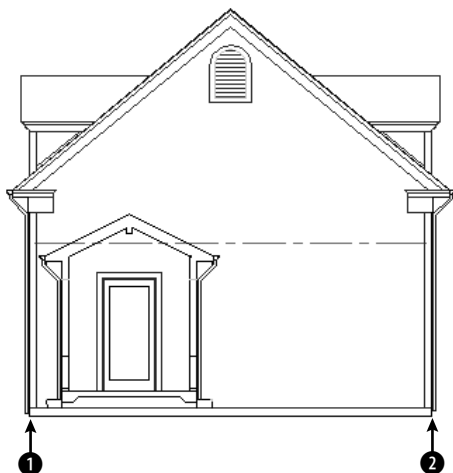

**Figure 15-10:** The garage elevation.
2. Save the file as `ab15-01.dwg` in your AutoCAD Bible folder. This drawing is an elevation of a garage, as shown in Figure 15-10. ORTHO and OSNAP should be on. Set running object snaps for endpoint and intersection. The Dim layer is current. If the Dimension toolbar is not visible, right-click any toolbar and choose Dimension.
3. To see what the Standard dimension style looks like, choose Linear from the Dimension toolbar. At the Specify first extension line origin or <select object>: prompt, pick ❶ in Figure 15-10. At the Specify second extension line origin: prompt, pick ❷. At the Specify dimension line location or [Mtext/Text/Angle/Horizontal/Vertical/Rotated]: prompt, pick a location for the dimension line below the line that you dimensioned. The arrows and text are so small that you can't even see them.
4. Use a Zoom Window to zoom in on ❶ and the left end of the dimension. Choose Zoom Previous from the Standard toolbar. Zoom in on the center of the dimension to see the text. Choose Zoom Previous again. As you can see, this dimension needs some modification.